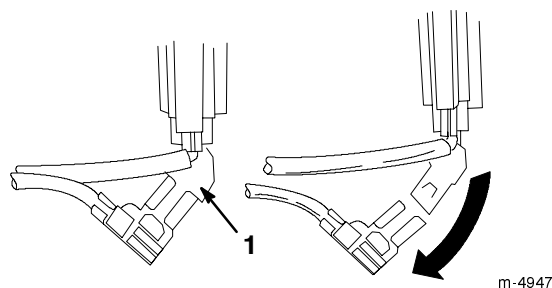

Figure 20
6. Disconnect the green ground wire clip under the throttle (Fig. 20).